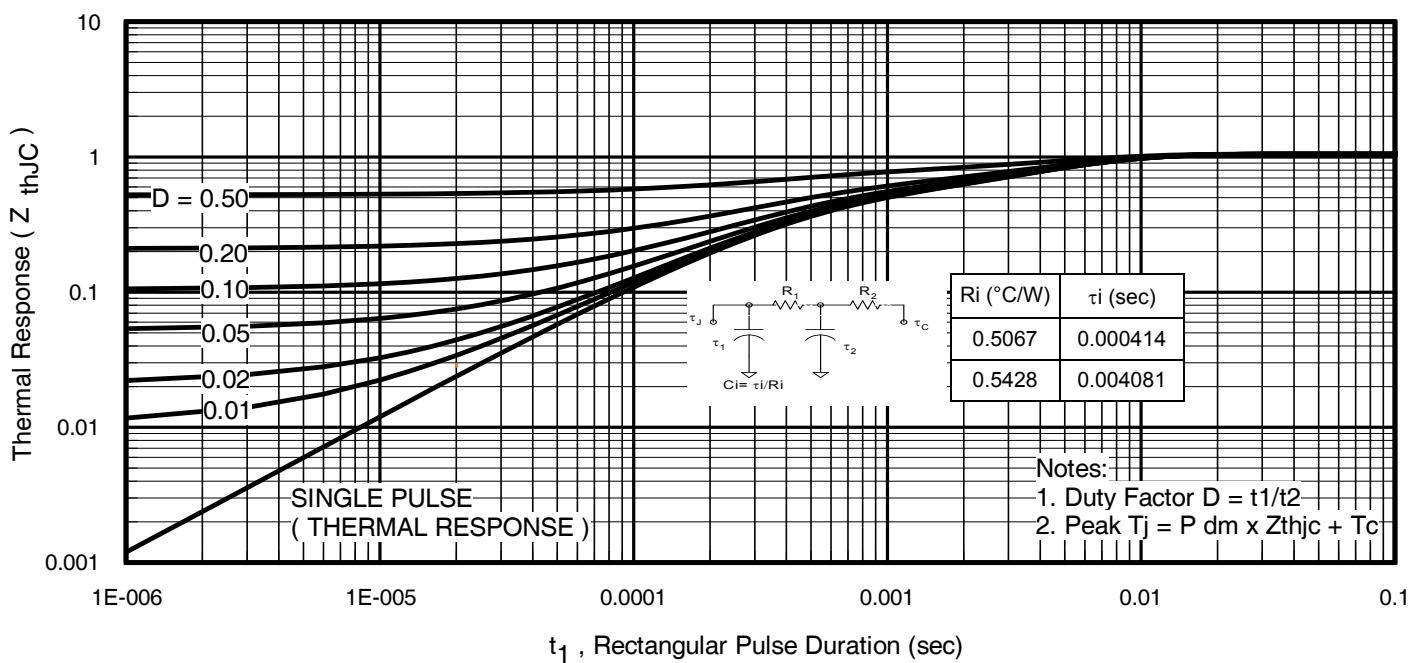
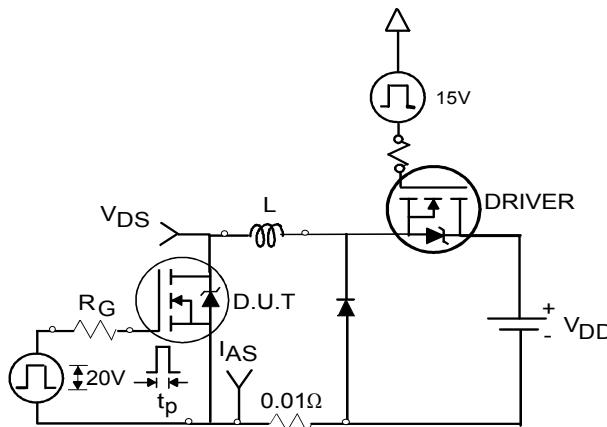

Fig 11. Maximum Effective Transient Thermal Impedance, Junction-to-Case
Fig 12a. Unclamped Inductive Test Circuit
- ① Repetitive rating; pulse width limited by max. junction temperature. (See fig. 11)
- ② Limited by $T_{J\max}$, starting $T_J = 25^\circ\text{C}$, $L = 0.16\text{mH}$, $R_G = 25\Omega$, $I_{AS} = 42\text{A}$, $V_{GS} = 10\text{V}$. Part not recommended for use above this value.
- ③ Pulse width $\leq 1.0\text{ms}$; duty cycle $\leq 2\%$.
- ④ $C_{oss\ eff.}$ is a fixed capacitance that gives the same charging time as C_{oss} while V_{DS} is rising from 0 to 80% V_{DSS}
- ⑤ Limited by $T_{J\max}$, see Fig.12a, 12b, 15, 16 for typical repetitive avalanche performance.
- ⑥ This value determined from sample failure population, starting $T_J = 25^\circ\text{C}$, $L = 0.16\text{mH}$, $R_G = 25\Omega$, $I_{AS} = 42\text{A}$, $V_{GS} = 10\text{V}$.
- ⑦ When mounted on 1" square PCB (FR-4 or G-10 Material). For recommended footprint and soldering techniques refer to application note #AN-994
- ⑧ R_θ is measured at T_J approximately 90°C .
3. Equation below based on circuit and waveforms shown in Figures 12a, 12b.